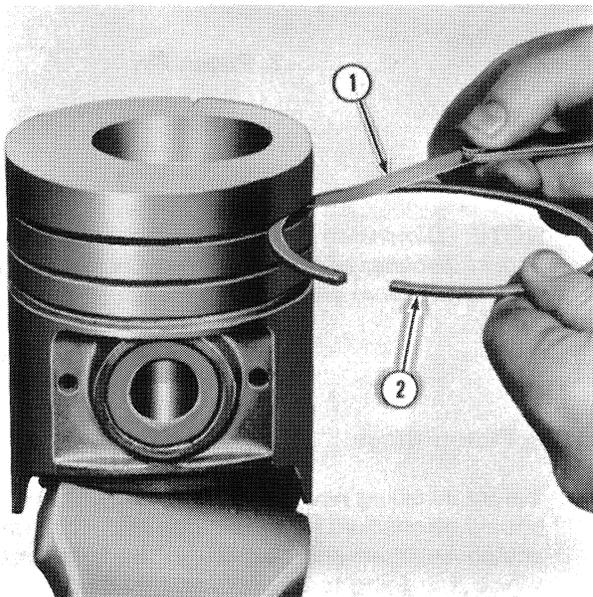

Figure 39
1. Inspect pistons for damage at the ring lands, skirts, and pin bosses. Check for separation of the top ring insert from the piston. Check for wear in the ring lands by using a new ring and a feeler gauge, as shown in Figure 39. The rings should have the clearances specified on page 78.